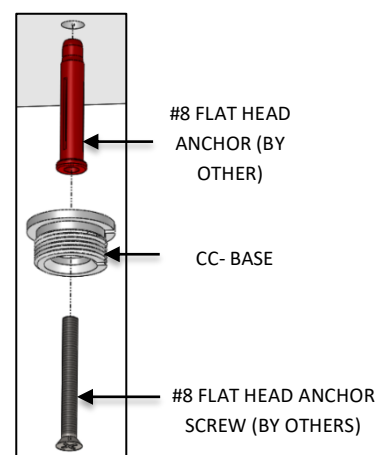

FIG. 23- HARD CEILING INSTALLATION
10. Install the CC-BASE to the #8 FLAT HEAD ANCHOR (by others) previously installed at the non-powered mounting location and secure with the #8 FLAT HEAD ANCHOR SCREW (by others) as shown in FIG. 23.